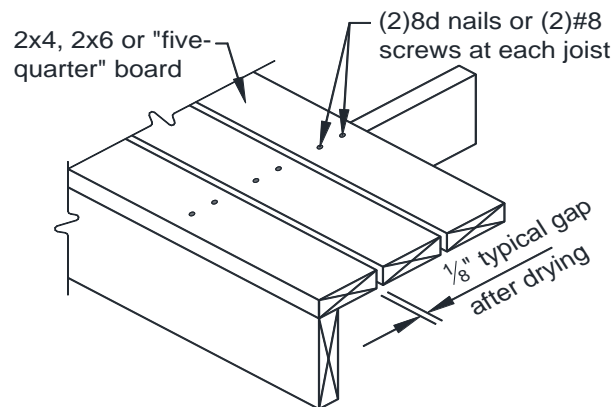

FIGURE 1: TYPICAL DECKING
- Wood decking shall be attached per FIGURE 1. If installed wet, place decking with no gap so after drying a 1/8-inch gap is created. The use of hidden fasteners and similar attachment devices are permitted only if supplemental bracing is installed beneath the joists – see the next page.